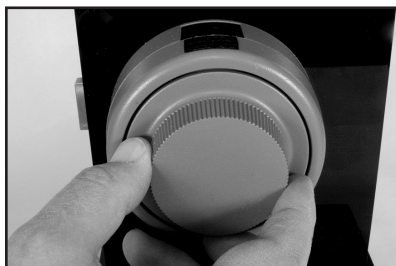

Figure 26 - Apply Pressure to Dial
9. Carefully align the dial so the 5-sided formed spring matches the flats of the dial hub assembly. Holding the dial square to the spindle, apply pressure to the dial until the retaining ring seats in the dial. (See Figure 26.)